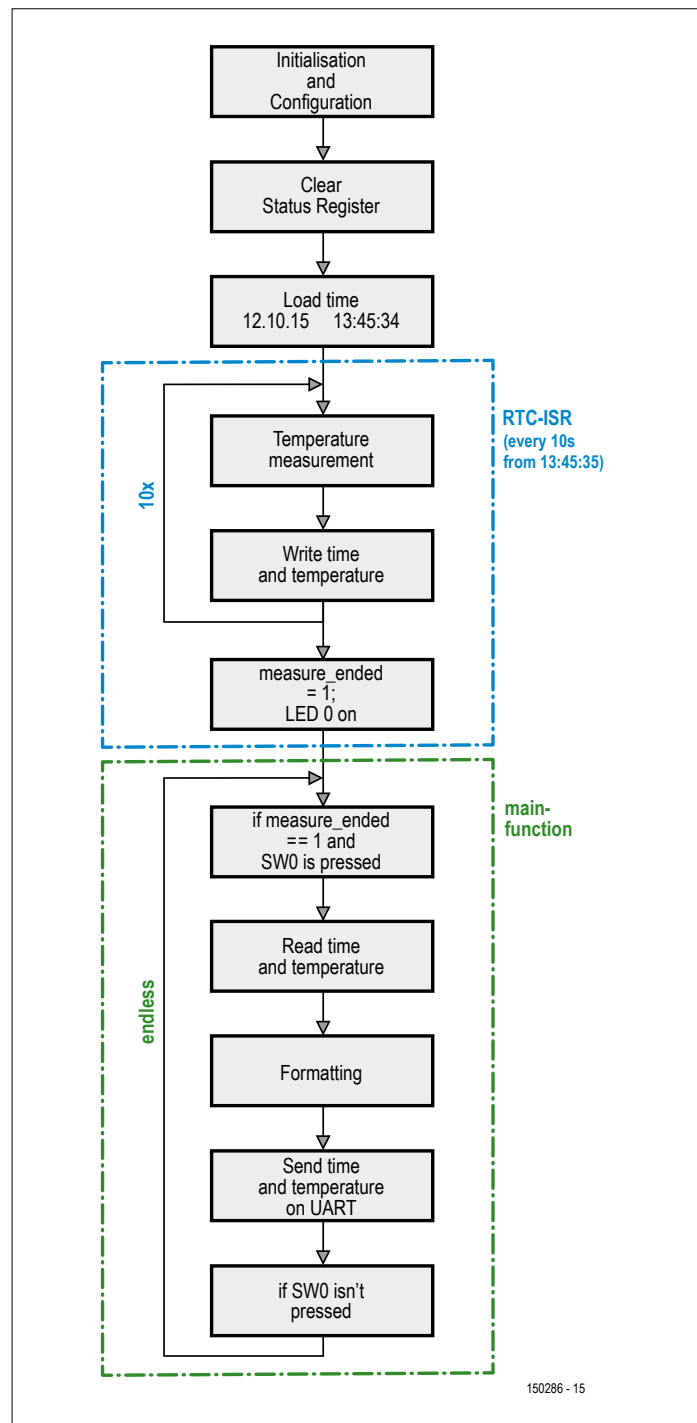

Figure 5. Program flowchart.
The most important parts of the program, whose flowchart is shown in **Figure 5**, are the main function and the RTC counter ISR. First we set the control register of the 25LC040 so that we have access to the whole of its address space, and, of course, configure the other peripheral modules of the SAM D20. For test purposes we set the RTC's time to 13:45:34 on 12.10.2015. The microcontroller now begins to take temperature readings using the ADC at ten second intervals. It stores the time in hours (1), minutes (2) and seconds (3) along with the temperature (4) in exactly that order in four registers, which explains the steps of four in the addresses in the array address. The corresponding code appears in the RTC callback ISR (**Listing 2**) which is called whenever an alarm is triggered, starting at 13:45:35 and recurring every ten seconds thereafter. On each call the variable `i` is incremented until it reaches ten, which indicates that a sequence of readings is complete. The sequence takes a total of $10 \times 10 = 100$ seconds to run.